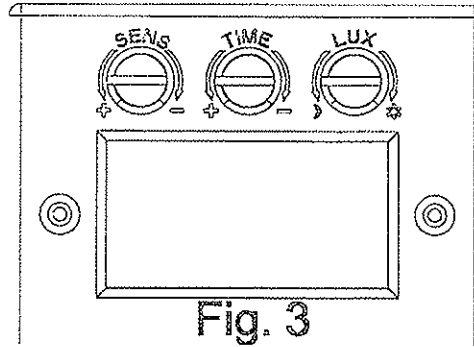

Fig. 3
► **UNDERSTANDING THE CONTROLS** (ref. to the Fig.3)